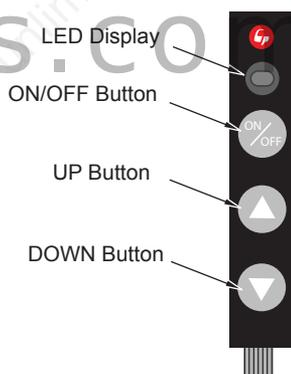

Figure 61 - Touch Pad Control
This touch control has only 3 buttons for controlling manually the flame of the appliance (see Figure 61).
1. To increase the flame level, press the up button ( ▲ ). A beep and a flash of the LED indicate that the system has accepted the order, and the flame will increase instantly (see Figure 61, page 28).
2. To decrease the flame level, press the down button ( ▼ ). A beep and a flash of the LED indicate that the system has accepted the order, and the flame will decrease instantly (see Figure 61, page 28).